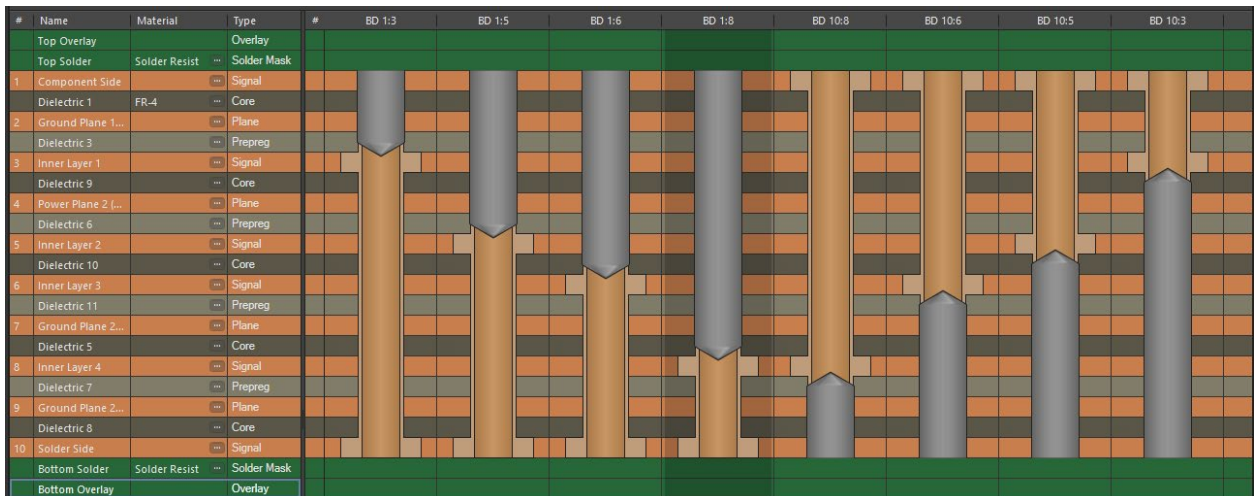

Figure 5. Finished set of Back Drills
- Now we need to add the remaining Back Drills. Using Figure 5 as your guide, add the remaining Back Drills.